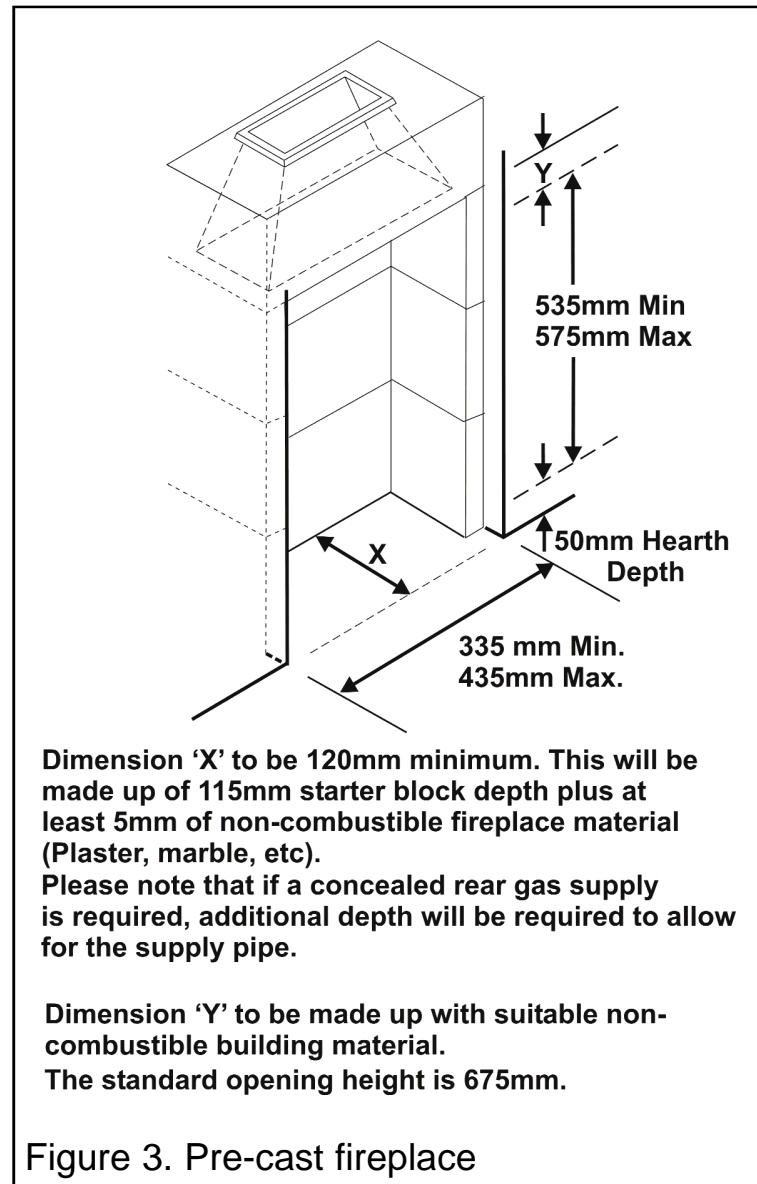

Figure 3. Pre-cast fireplace
3.2.3 To a fireplace that has a precast concrete or clay flue block system conforming to BS1289 or BS EN 1858. The appliance is suitable for installations conforming to older versions of BS1289 as well as the current edition. The flue blocks must have a minimum width not less than 63mm and a cross-sectional area not less than $13,000\text{mm}^2$. Older editions of BS1289 required a cross-sectional area of $13,000\text{mm}^2$. The current revision of the standard requires $16,500\text{mm}^2$. This appliance is suitable in both cases. The total depth of the opening measured from the finished front of the fireplace (Including plaster, surround etc.) must be **not less than 120mm** (See figure 3).